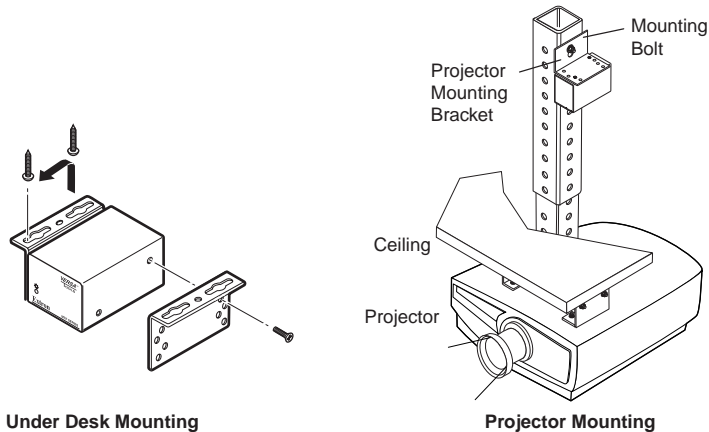

Figure 2-10 — Desk and projector mounting the MTPs
2. Attach the mounting brackets to the MTP with the machine screws provided (figure 2-10).